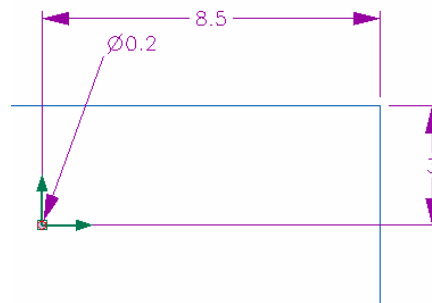

Figure 3. Placing the center hole.
5. Select the top face (it will turn red) then right click and create a new sketch. Name it Mounting Holes. Use the dimensions given in figure 3 to place a 0.2D hole at the center or origin.